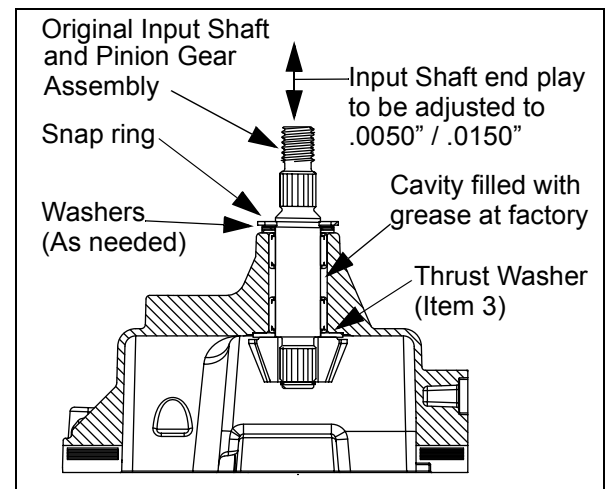

FIGURE 2
2. Lube both faces of Thrust Washer, Item 3, and heel side of pinion gear with grease (Not supplied). Place Thrust washer over Input Shaft and onto heel of pinion gear. See Figure 2.